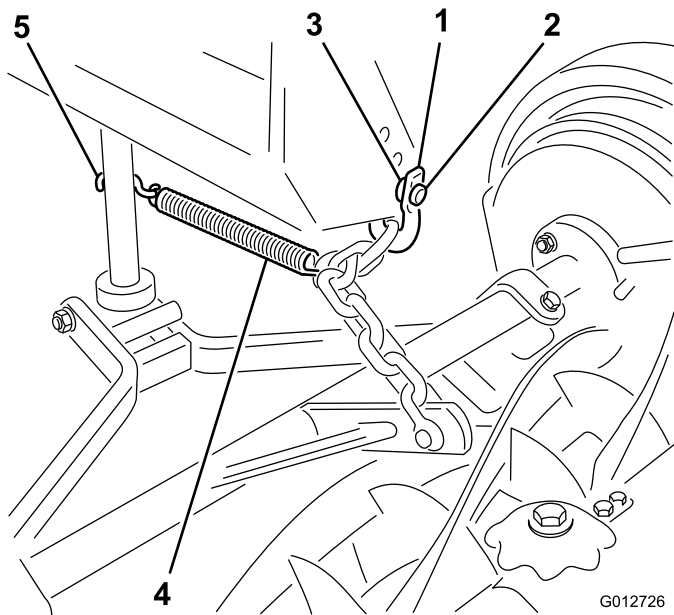

Figure 12
3. Secure the lift chain to the lift arm and the mower mounting bracket with the long shackles, clevis pins and cotter pins (Figure 12).
- Hook the spring to the fifth link in the chain from the mower and secure the other end of the spring to the lift bail with the S-hook (Figure 12).